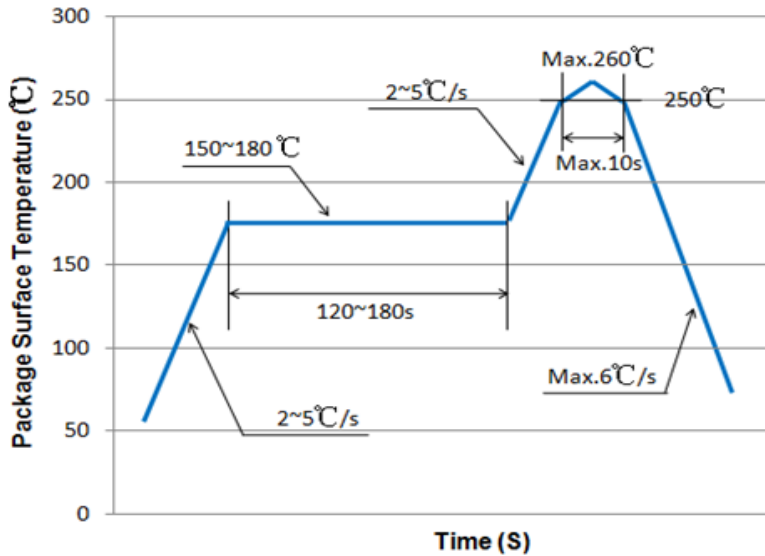

Figure 9 Reflow Profile
- ◆ Figure 9 is the reflow profile for Pb free process